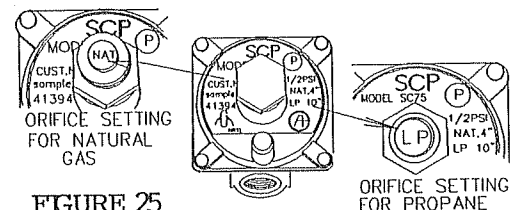

FIGURE 25
6. Remove the hex nut from the regulator tower. Re-insert the hex nut positioned correctly for the type of fuel being converted to. FIGURE 25.